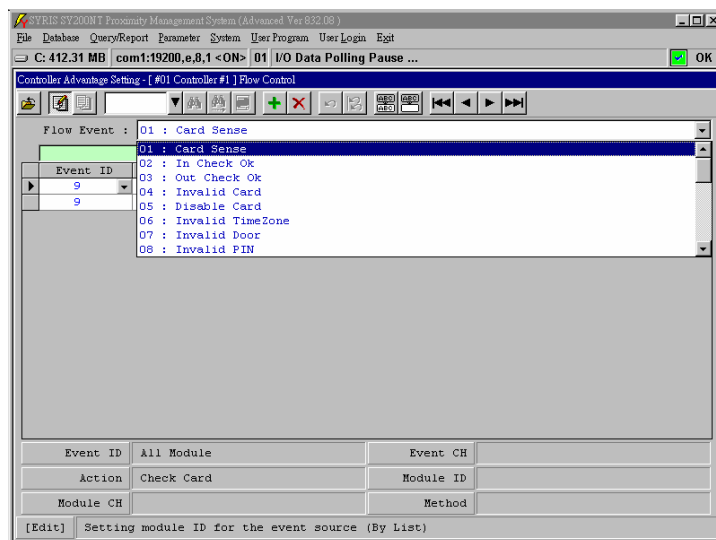

Fig.10-4 Flow Event Select
5. Click "Flow Event"  to select event no, as Fig.10-4.